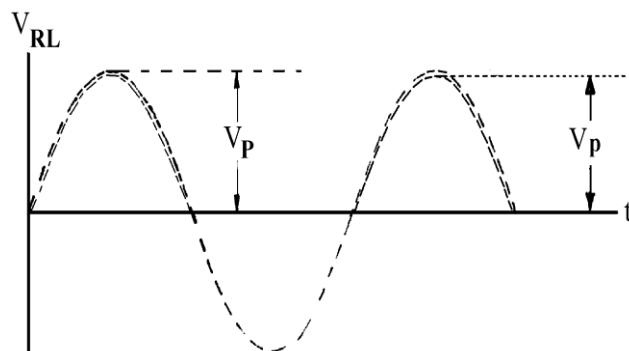

Figure 4
- Draw the output voltage (V_{RL}) waveform in detail as measured by the oscilloscope on the axis in Fig. 4 and record the voltage value next to V_p . (peak voltage).
It can be seen from Fig.4 on the next page that the peak voltage across the load is lower than the peak value of the supply. This is due to the forward volt drop of the diode.